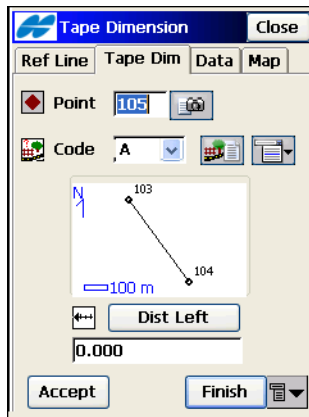

Figure 8-51. Tape Dimension – Tape Dim Tab
3. On the *Tape Dimension* tab, set the parameters for performing the survey: the name and code of the surveyed point, and the direction (left or right of the previous line) and the distance of the movement from the previous point (Figure 8-51).